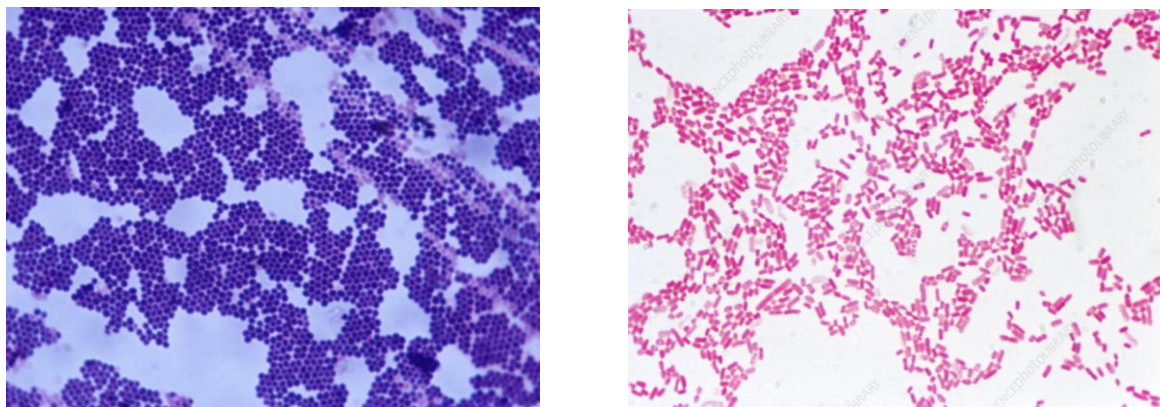

Figure 9: Gram's positive *Staphylococcus aureus* (Cocci arranged in cluster having violet color) Left side
**A: Gram's staining****B: Acid-fast staining****Figure 9: Differential staining techniques**